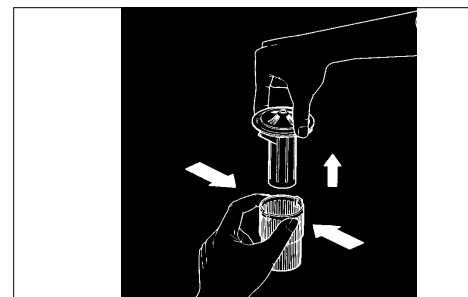

fig. 13c
- Remove the microfilter (D) by unscrewing the bayonet catch.
- Remove the filter mesh by squeezing the filter housing (see fig. 13c). Simultaneously, pull out the filter mesh vertically.